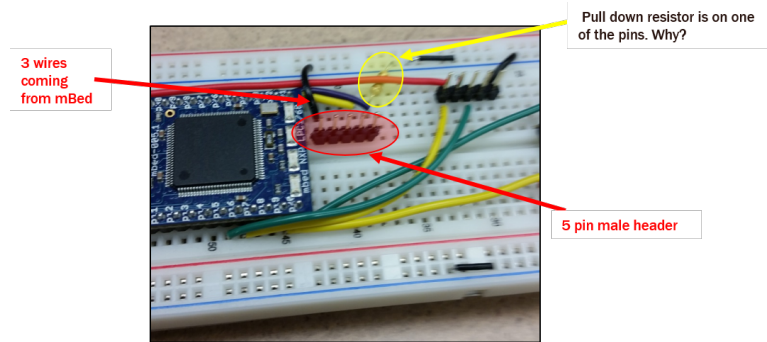

Figure 6: Three pins designated from the mBed attached to a 5 pin male header. Two of the pins are no-connects. A 10K resistor remains on one of the pins.
Since we only need three wires, two wires in the pre-made cable will be no-connects (NC). On your breadboard, select the appropriate pins from the mBed and wire those pins in the correct order to a male header pin on the breadboard as show in Fig. 6.